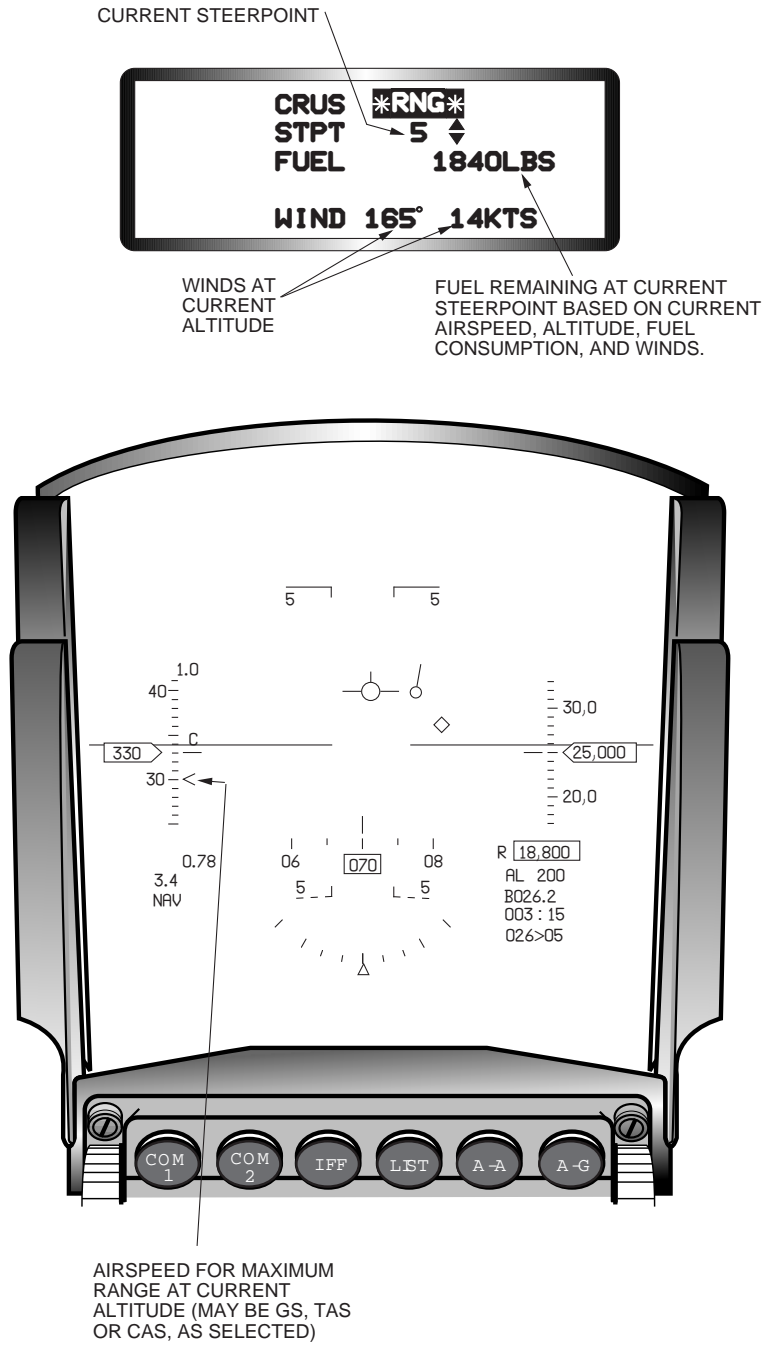

Figure 2-16 Cruise Range Option
**Range.** The RNG option DED page provides the fuel remaining at the currently selected steerpoint based on current fuel consumption, airspeed, winds, and altitude (Figure 2-16). Current winds are also shown. When the RNG option is mode selected, a maximum range airspeed cue, based on current winds at the current altitude, is displayed in the HUD. The pilot adjusts airspeed to that indicated by the caret to achieve maximum range at the current altitude.